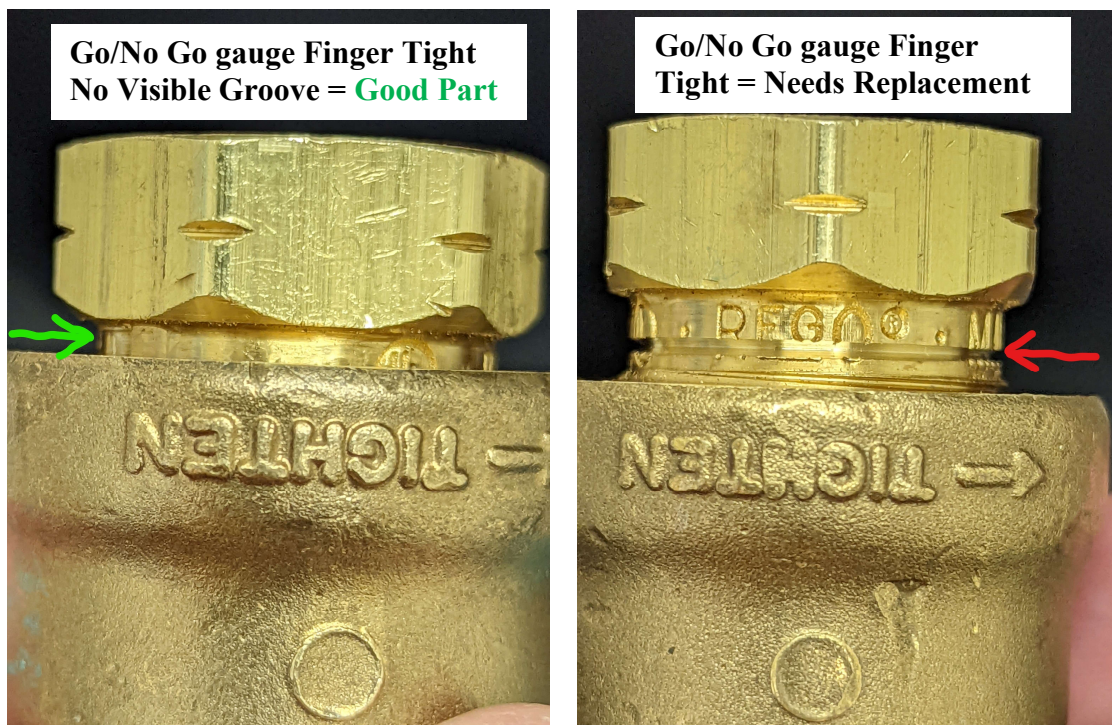

Figure 2: Go/No Go Gauge POL Nut – Groove Cut Through Roll Stamp Information
- a. Use the supplied go/no-go gauge POL nut to determine if the threads are the proper depth. (See Figure 2.) If the threads are not the proper depth, securely close the valve, remove the container from service, and replace the valve. Do not use the container without first replacing the valve.
- a. Remove the POL connector from the outlet of the service valve and use the supplied go/no-go gauge POL nut to determine if the service valve threads are the proper depth. (See Figure 2).
- i. Remove the POL connector from the outlet of the service valve and use the supplied go/no-go gauge POL nut to determine if the service valve threads are the proper depth. (See Figure 2 above.)